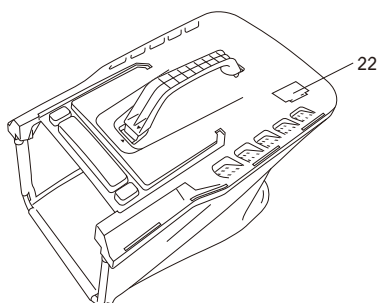

FIG.13
2. When the full bag indicator (22) is closed, the grass catcher is full and must be emptied (Fig. 13).